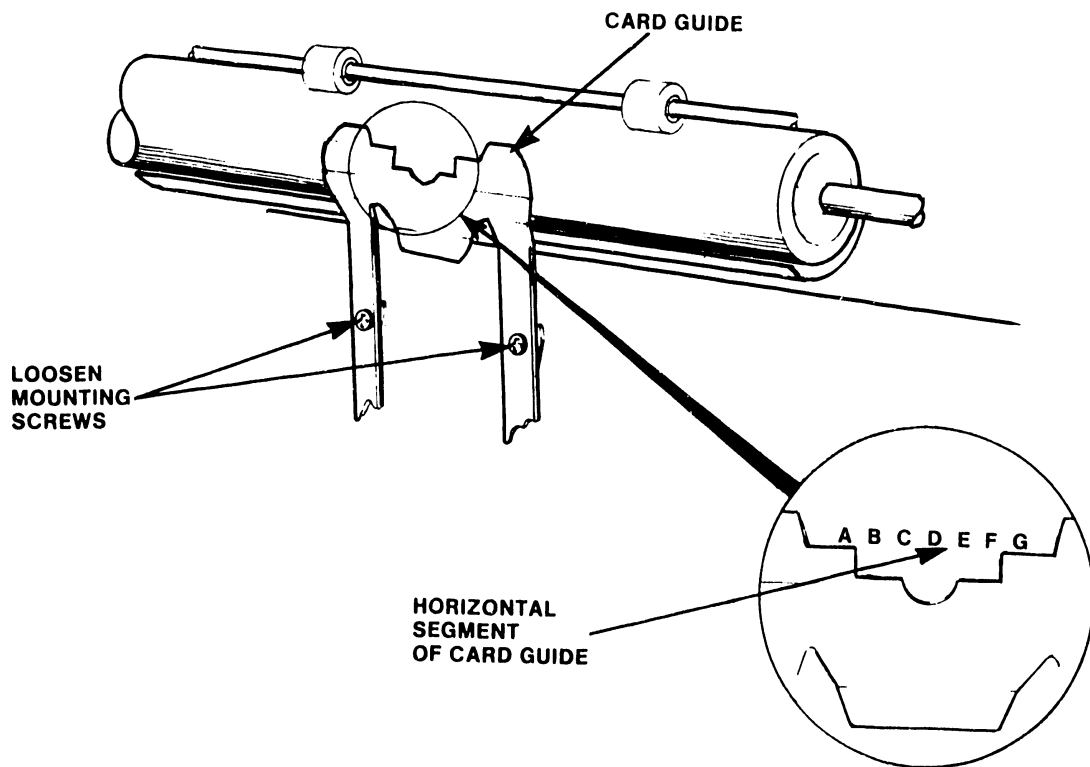

FIGURE 5-18 CARD GUIDE CHECK AND ADJUSTMENT
13. Check that the printing is horizontally aligned with the horizontal segment of the card guide as shown in Figure 5-18. Either the roll-up or the roll-down switch may be used to position the line of characters.
1. Loosen the two card-guide mounting screws (see Figure 5-18).